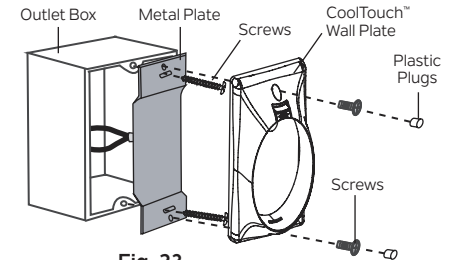

Fig. 23
**Step 2.** Install the metal plate and CoolTouch™ wall plate to the existing wall outlet box with 4 screws provided. Insert the two plastic plugs into the wall plate. **(Fig. 23)**